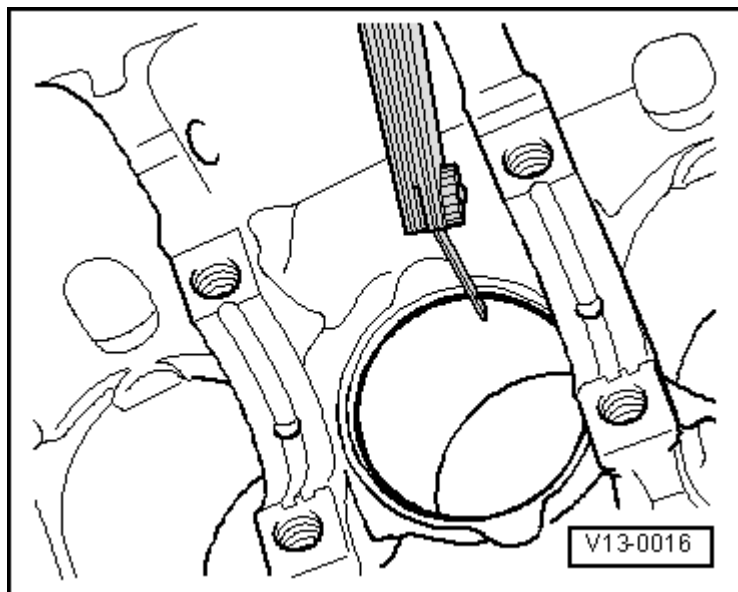

Fig. 29: Identifying Check Of Piston Ring Gap
- Ring gap, checking. Refer to **Fig. 29**.